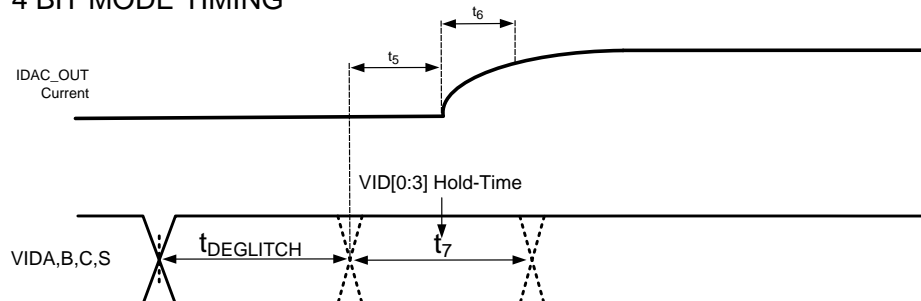

图 1. Timing Diagram for LM10011 Communications
(5) For VID timing, see 图 1.
Four pins are used to communicate with the LM10011. In 6-bit mode (MODE = 0), VIDA, VIDB, and VIDC are data lines, while VIDS is a latching strobe that programs in the LM10011 data. As shown in the 6-bit mode timing diagram of 图 1, the falling edge of VIDS latches in the data from VIDA, VIDB, and VIDC as the lower three LSB of the IDAC_OUT value, [2:0]. After a minimum hold time (t_2), the rising edge of VIDS latches in the data from VIDA, VIDB, and VIDC as the upper three LSB of the IDAC_OUT value, [5:3]. Internally, a delay (t_3, t_4) on VIDS allows for the setting of all VIDA, VIDB, and VIDC lines to change simultaneously as VIDS rises or falls.
The LM10011 includes a 4-bit mode to facilitate parallel VID communication. In 4-bit mode (MODE = 1), VIDC, VIDB, VIDA, and VIDS are all parallel data lines. As shown in the 4-bit mode timing diagram in 图 1, a changing edge of any of the VID communication lines will change the IDAC_OUT current to the corresponding new 4-bit value found on the data lines. There is a 3- μ s deglitch filter to eliminate spurious noise events. The data must overcome the deglitch time and the minimum hold time (t_7) or else the IDAC_OUT pin current may not reflect the value indicated at the VID data inputs. During the hold time, no other data line can be transitioned.